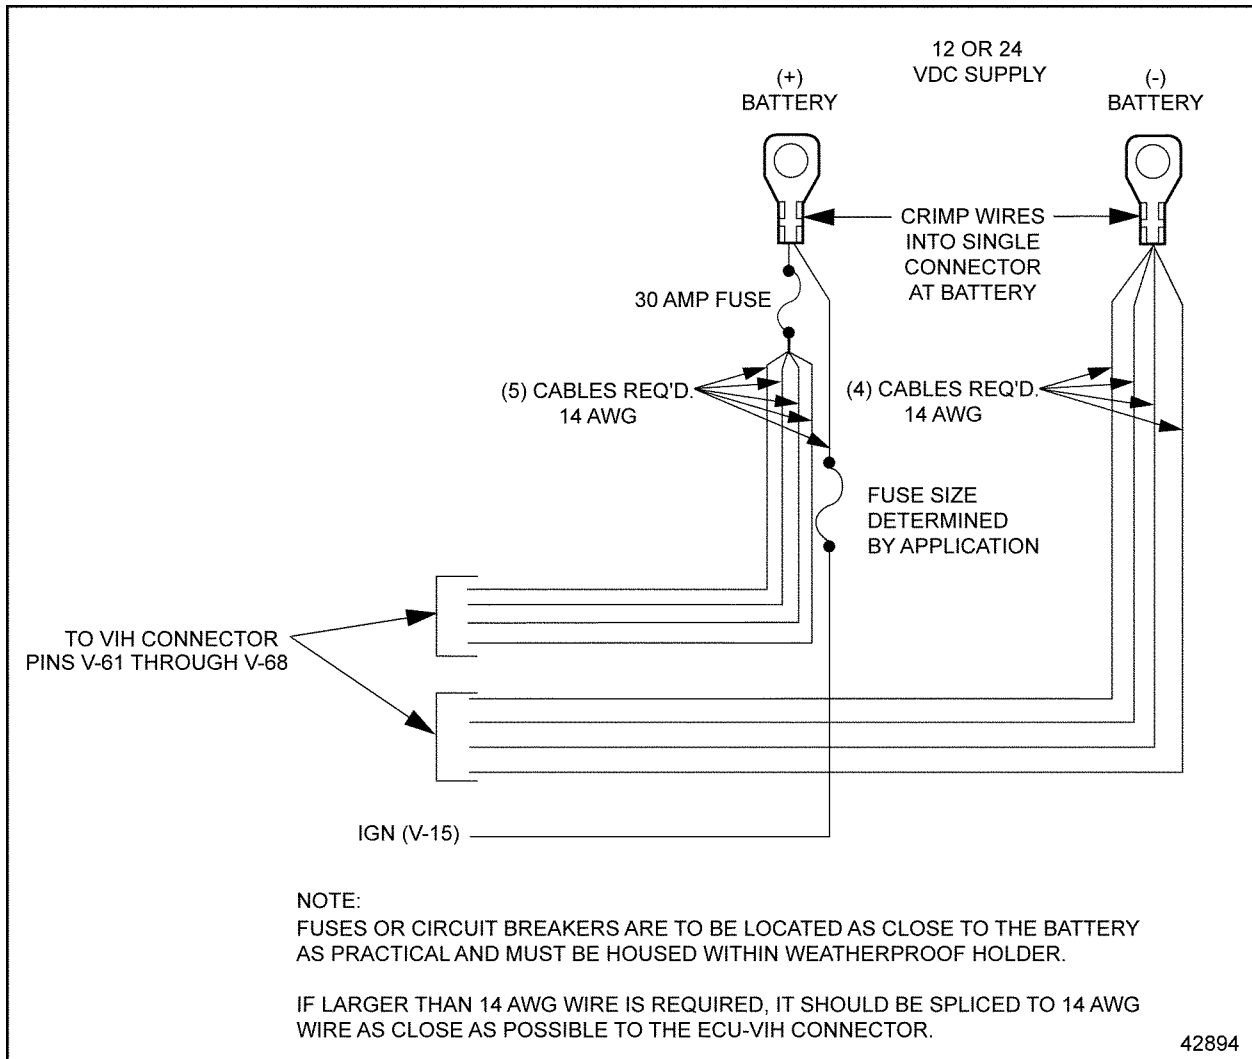

Figure 19-3 Pins V-61 through V-68 to Battery Leads
5. To check for a good ground wire, measure voltage between socket V-15 on the vehicle harness connector (red lead) and Pins V-63, V-64, V-67, or V-66 of the vehicle harness connector. For 5-way ECM/ECU power harness schematic, see Figure 19-3.